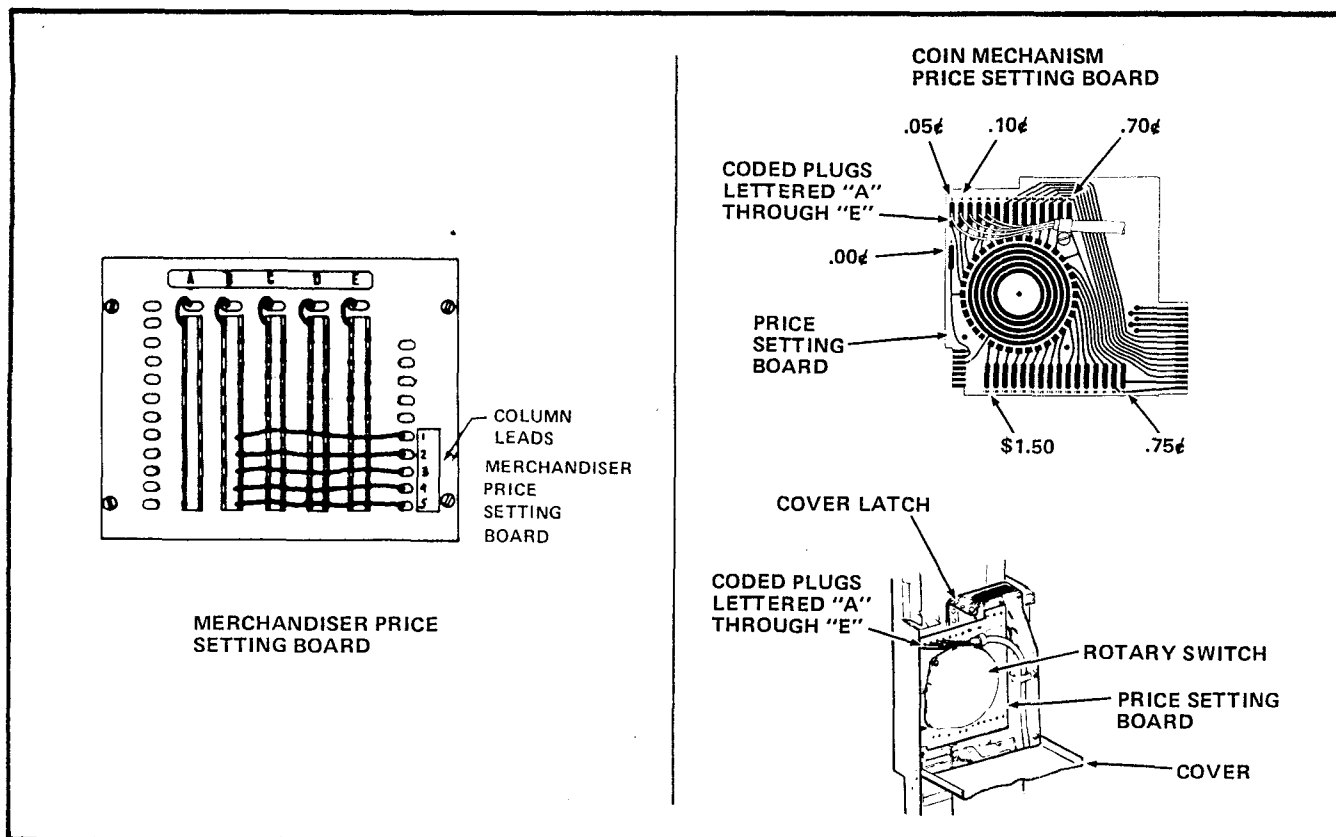

Figure 2-4. Price Setting Boards (ACER)
- b. Insert the five plugs into the five receptacles which correspond to prices at which the Merchandiser is to vend. The plugs must be firmly seated. If the Merchandiser is to vend at less than five prices, insert the unused plugs into any unused high price receptacles. See Figure 2-4.
The Merchandiser Price Setting Board, which is located on the lower left of the Cabinet Door (See Figures 2-4 and 2-6), consists of a Cover, a Terminal Board, Price Terminal Strips, and five wires numbered 1 through 5. The numbers on the wires represent the column numbers of the Merchandiser. The number 1 wire is for the
2. Connect each of the numbered wires to the desired Price Terminal Strip for the price at which that column is to vend. Each of the numbered wires corresponds to one of the columns in the Merchandiser. See Figure 2-4.